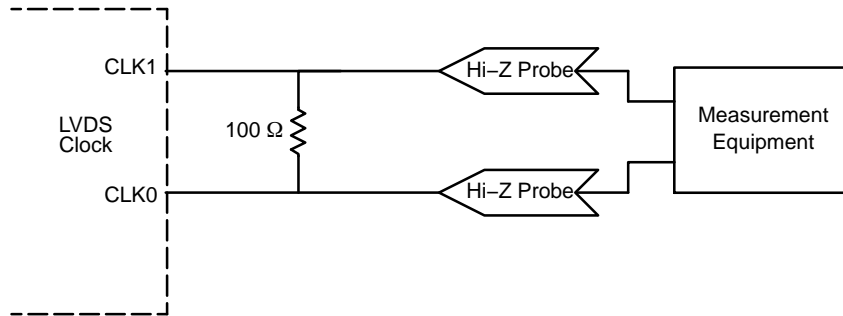

Figure 9. LVDS Parameter Measurement
11. LVDS outputs require 100  $\Omega$  receiver termination resistor between differential pair. See Figure 9.